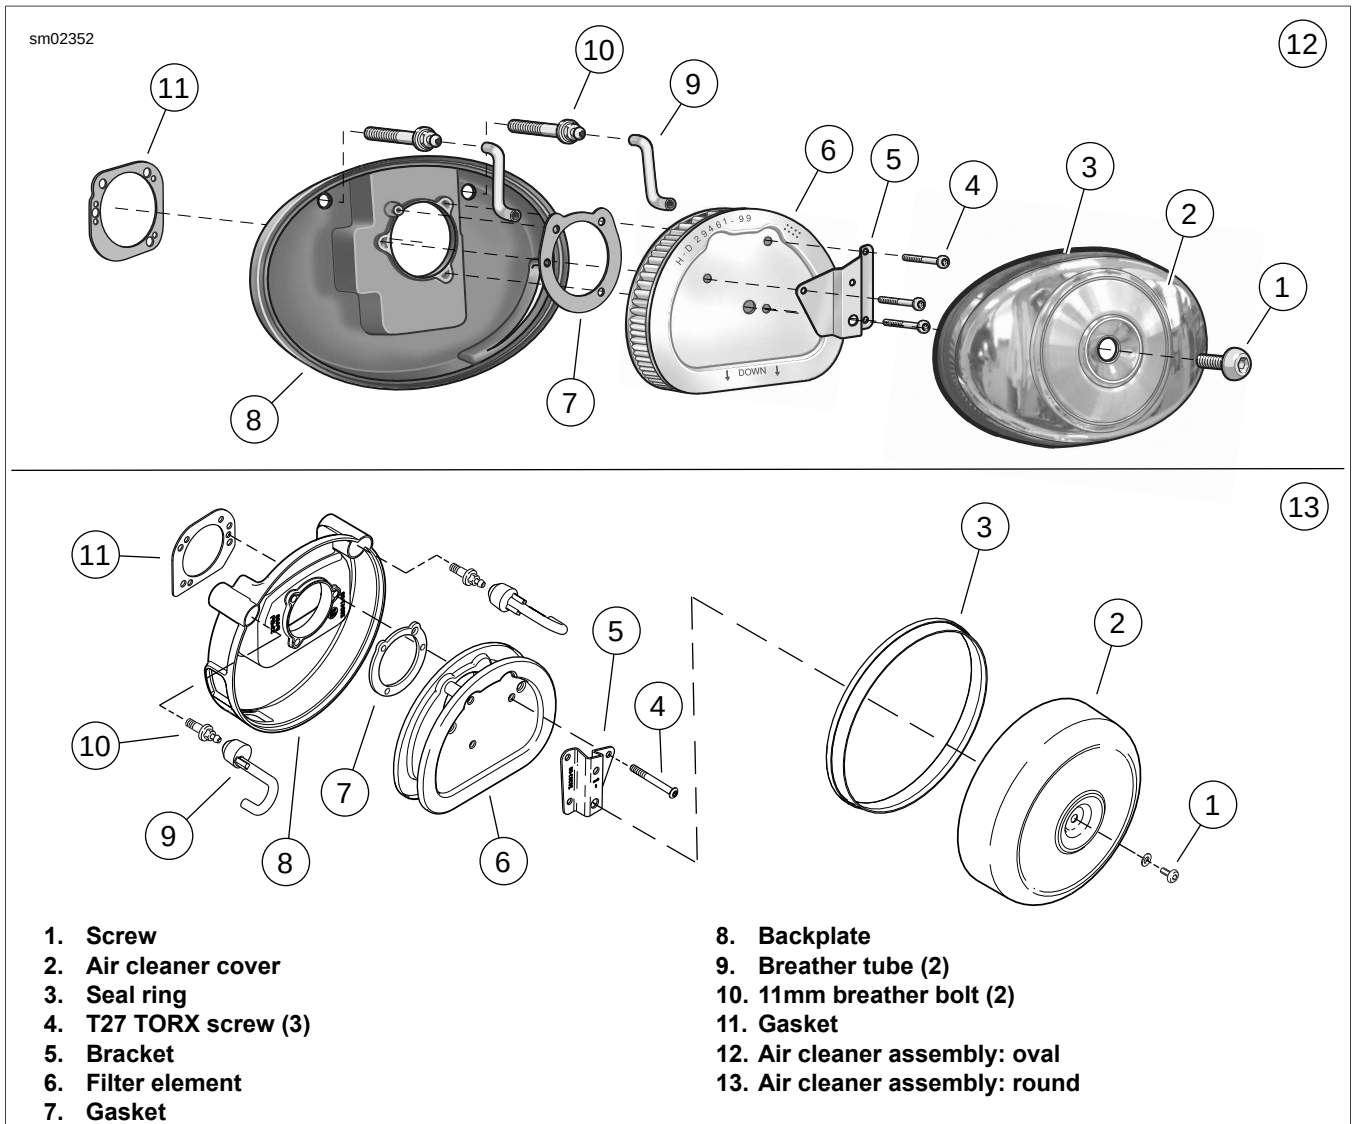

Figure 4-1. Air Cleaner Assembly
1. See Figure 4-1. Remove screw (1) and air cleaner cover (2).
2. Remove three TORX screws (4) and bracket (5) from filter element (6).
3. Gently pull both rubber breather tubes (9) from the element. Remove filter element (6) and gasket (7).
5. Gently pull breather tubes (9) from breather bolts (10) on the backplate.
7. Inspect seal ring (3) for cracks or tears. Verify that it seals tightly to backplate. Replace as required.
8. Alternately back out both breather bolts (10) a few turns a time while pulling backplate (8) away from induction module.
9. Continue previous step until breather bolts are clear. Remove backplate (8) and gasket (11). Discard gasket.
10. Wipe inside of air cleaner cover (2) and backplate (8) with damp cloth to remove dust.
1. See Figure 4-1. Position **new** gasket (11) on backplate. Insert two breather bolts (10) into backplate. Thread bolts loosely into each cylinder head. Final tighten bolts to 22-24 ft-lbs (29.9-32.6 Nm).
2. Insert two breather tubes (9) into the holes in the filter element. Place the element back into position and attach breather tubes to breather bolts.
3. Install air filter element (6) and bracket (5).
- a. Make sure gasket (7) holes are aligned with backplate holes.
- b. Use three TORX screws (4) to secure bracket and filter element. Tighten to 40-60 **in-lbs** (4.5-6.8 Nm).
4. Install air filter cover (2).
- a. Apply a drop of LOCTITE 243 MEDIUM STRENGTH THREADLOCKER AND SEALANT (blue) to threads of air cleaner cover screw (1).